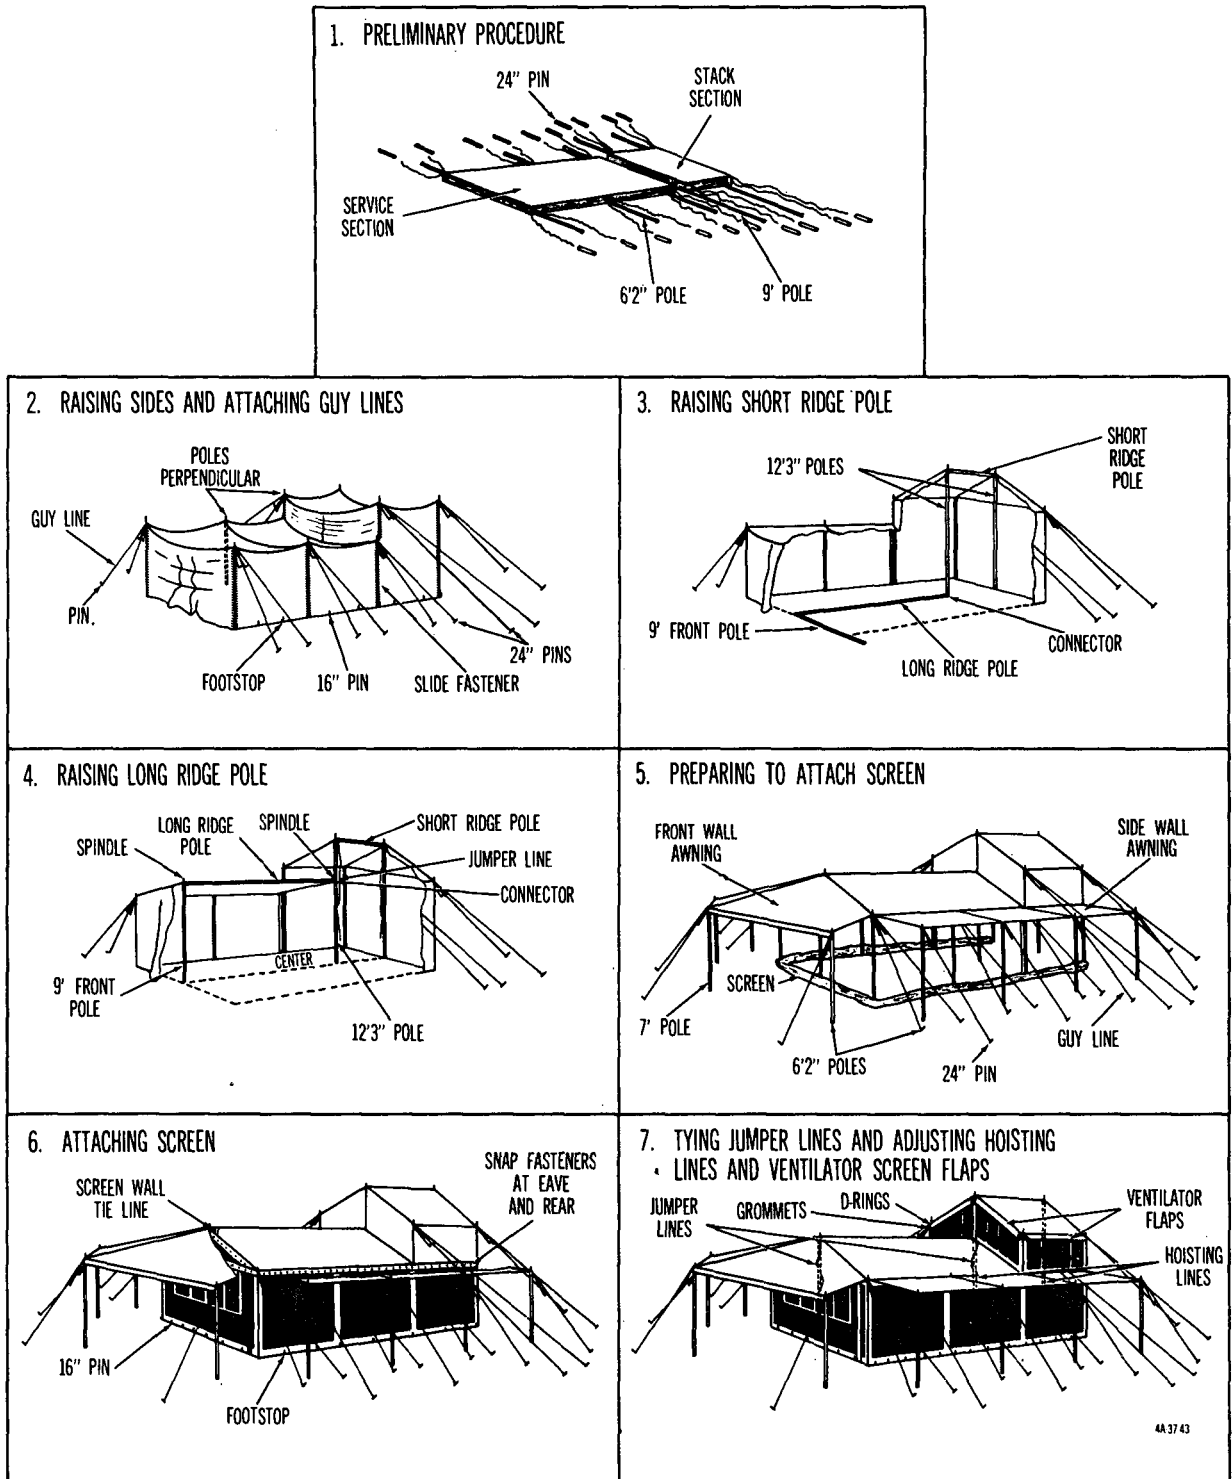

Figure 41. Steps in pitching tent, kitchen, flyproof, M-1948.
(1) *Preliminary procedure* (1, fig. 41). Spread tent out according to ground plan with the four 9-foot and the six 6-foot 2-inch side poles and twenty 24-inch pins in proper position.
(2) *Raising sides and attaching guy lines* (2, fig. 41).
(3) *Raising short ridge pole* (3, fig. 41). Insert spindles of the two 12-foot 3-inch upright center poles through holes at ends of short ridge pole, raise poles, and insert spindles of the 12-foot 3-inch upright center poles into grommets in stack ridge. Make sure that the 12-foot 3-inch upright poles are at the front and rear center of stack section 6 feet from each side, and that they are perpendicular.
(4) *Raising long ridge pole* (4, fig. 41).
- (5) *Preparing to attach screen* (5, fig. 41).
- (6) *Attaching screen* (6, fig. 41).
(7) Tying jumper lines and adjusting hoisting lines and ventilator screen flaps (7, fig. 41).